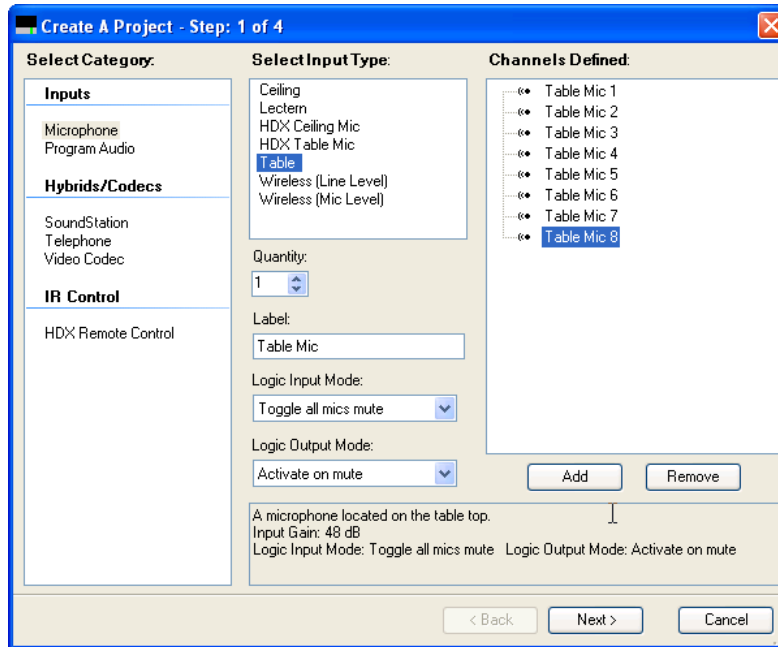

Figure 6. The result of adding the 8 table top microphones in Figure 5.
As highlighted in Figure 5, select Microphone (1) and then Table (2), the number of microphones that will use Litetouch Halo ring and touch pads (3), select the Logic Input Mode to be Toggle all mics mute (4) and the Logic output Mode to Activate on mute (5), and finally click Add (6). Since the logic output will be active when muted, these logic output pins are the RED led's. The result of clicking Add is shown in Figure 6.